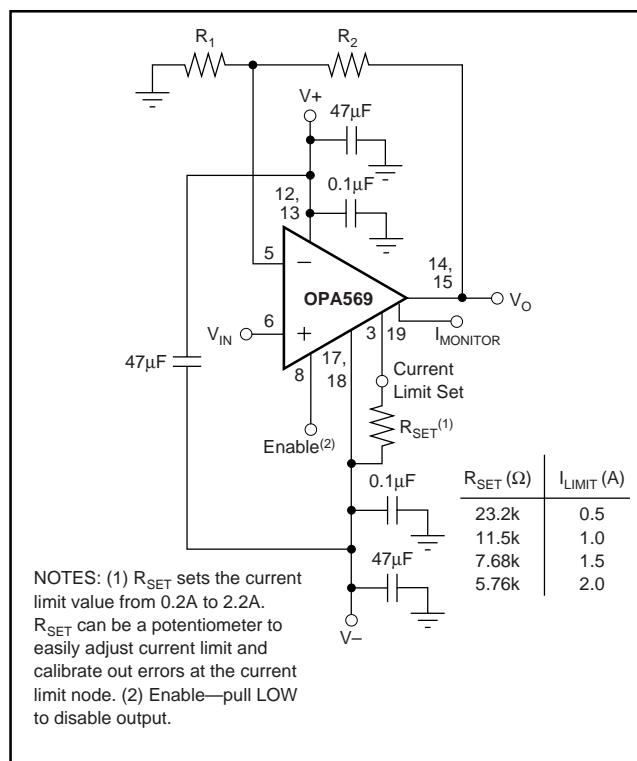

FIGURE 1. Basic Connections.
NOTES: (1) See typical characteristic "Maximum Output Voltage vs Frequency." (2) See the typical characteristic "Total Harmonic Distortion + Noise vs Frequency." (3) Swing to the rail is measured in final test. Under those conditions, the  $A_{\text{OL}}$  is derived from characterization. (4) See Safe Operating Area (SOA) plots. (5) See typical characteristic, "Overshoot vs Load Capacitance." (6) External current limit setting resistor is required. See Figure 1. (7)  $I_{\text{LIMIT}}$  is the value of the desired current limit and is equal to 9800 ( $I_{\text{SET}}$ ), where  $I_{\text{SET}}$  is the current through the Current Limit Set pin (pin 3). Errors from this parameter can be calibrated out—see Applications Information section. (8)  $V_{\text{SET}}$  is a voltage reference that equals the difference between the voltage of the Current Limit Set pin and  $V-$ , and is referenced to the negative rail. Errors from this parameter can be calibrated out—see Applications Information section. (9) % Tolerance =  $[(I_{\text{OUT}}/475) - I_{\text{MONITOR}}] \cdot 100/I_{\text{MONITOR}}$ .
Figure 1 shows the OPA569 connected as a basic non-inverting amplifier; however, the OPA569 can be used in virtually any op amp configuration. A current limit setting resistor ( $R_{SET}$ , in Figure 1) is essential to the OPA569's operation, and cannot be omitted.